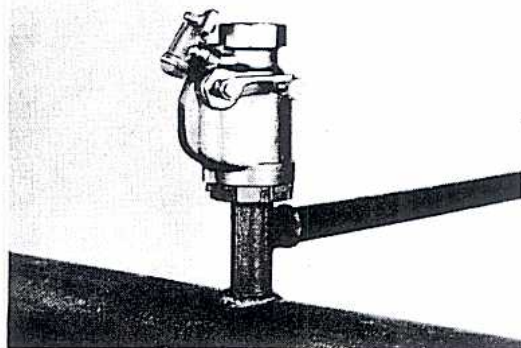

FIGURE 9
- e. Push by-pass valve in all the way against the by-pass valve body, to the by-passing position. FIGURE 9.